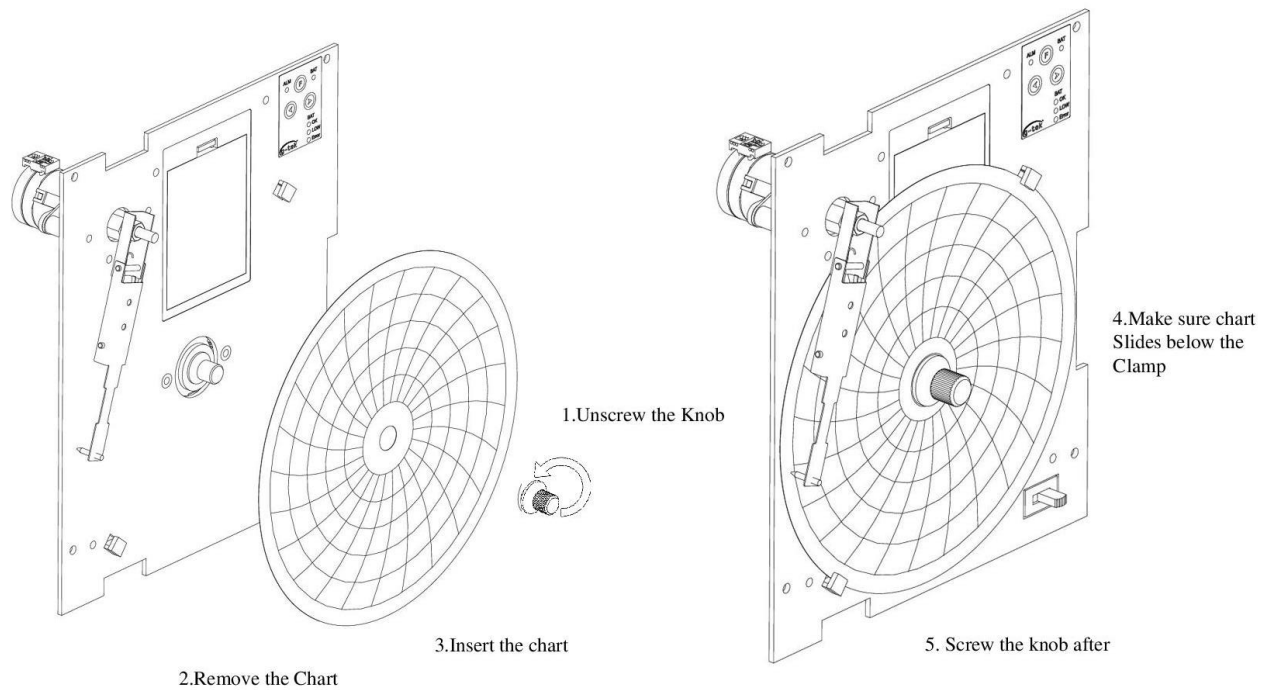

Figure 7 - Chart Fitting
3. Unscrew the chart knob as shown in figure 7.
6. Screw the knob after setting time axis. Make sure that chart slides below the clamp as shown in Figure 7.